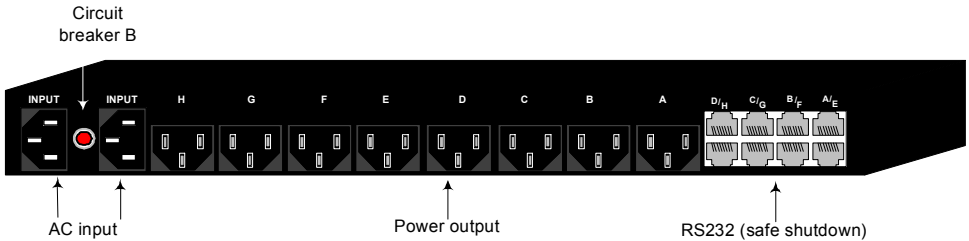

Figure 3 RPS Manager and Slave rear panel
1. Connect the RJ11 connector to the appropriate RS232 port on the rear of the RPS. See Figure 3 above. For example, if the computer is connected to power outlet D, connect the RJ11 connector to the RS232 D port.